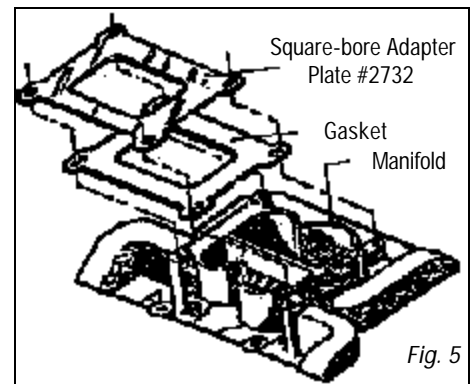

Fig. 5
- You must use an Edelbrock Adapter #2732 when installing a Performer Series Carb on certain Edelbrock intake manifolds. In those applications, install the adapter as shown (See Fig. 5).